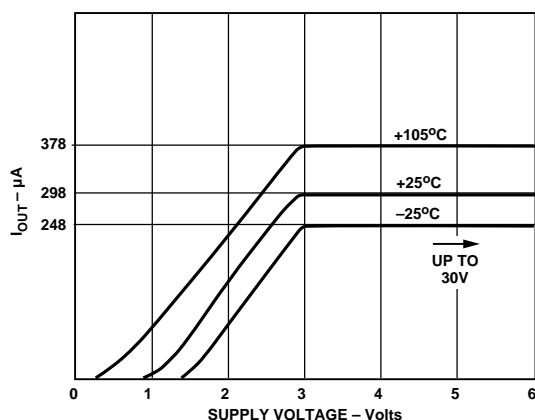

Figure 1. V-I Characteristics
The AD592 uses a fundamental property of silicon transistors to realize its temperature proportional output. If two identical transistors are operated at a constant ratio of collector current densities, r , then the difference in base-emitter voltages will be $(kT/q)(\ln r)$. Since both k , Boltzman's constant and q , the charge of an electron are constant, the resulting voltage is directly Proportional To Absolute Temperature (PTAT). In the AD592 this difference voltage is converted to a PTAT current by low temperature coefficient thin film resistors. This PTAT current is then used to force the total output current to be proportional to degrees Kelvin. The result is a current source with an output equal to a scale factor times the temperature (K) of the sensor. A typical V-I plot of the circuit at +25°C and the temperature extremes is shown in Figure 1.